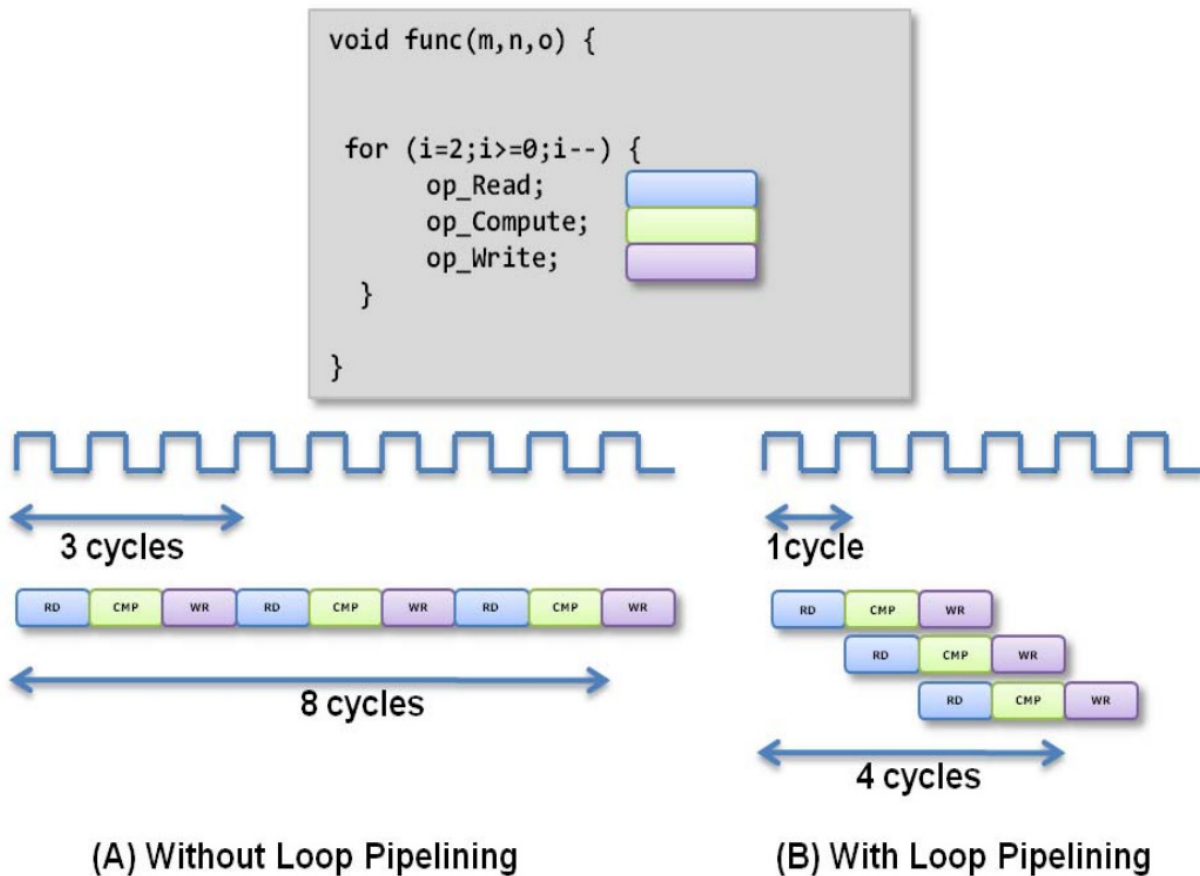

Figure 4: Loop Pipelining Example [3].
Figure 4 shows an example of loop pipelining [3]. Figure 4(A) shows the sequential loop, where the $II=3$, and it takes 8 clock cycles for the 3 loop iterations before the final write is performed. Figure 4(B) shows the pipelined loop. In this case, there are no resource contentions or data dependencies. Hence the $II=1$, and it takes 4 clock cycles before the final write is performed. You can see that loop pipelining can significantly improve the performance of your circuit, especially when there are no data dependencies or resource contentions.